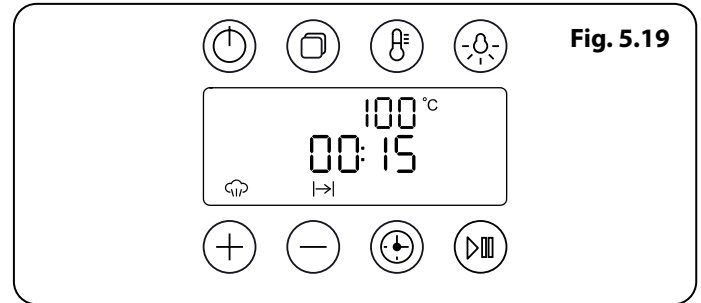
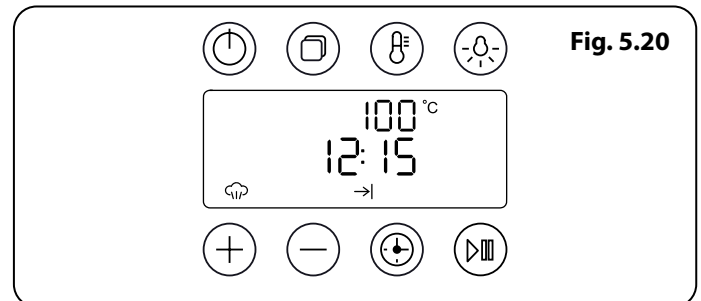

Fig. 5.19
Fig. 5.20
4. Tap the Start / Pause button. The display will show the 'cook period' (**Fig. 5.19**) and the 'stop time' (**Fig. 5.20**).